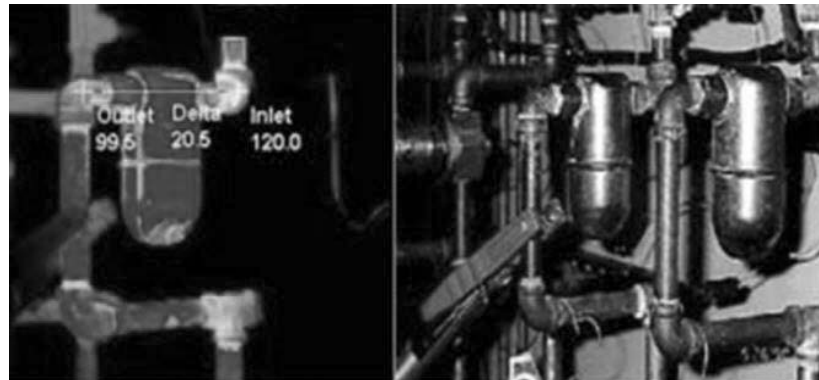

Figure 23-37 Overheated winding in motor; Overheated bearing
- winding problems in motors See Figure 23-37
- overheated bearings See Figure 23-37